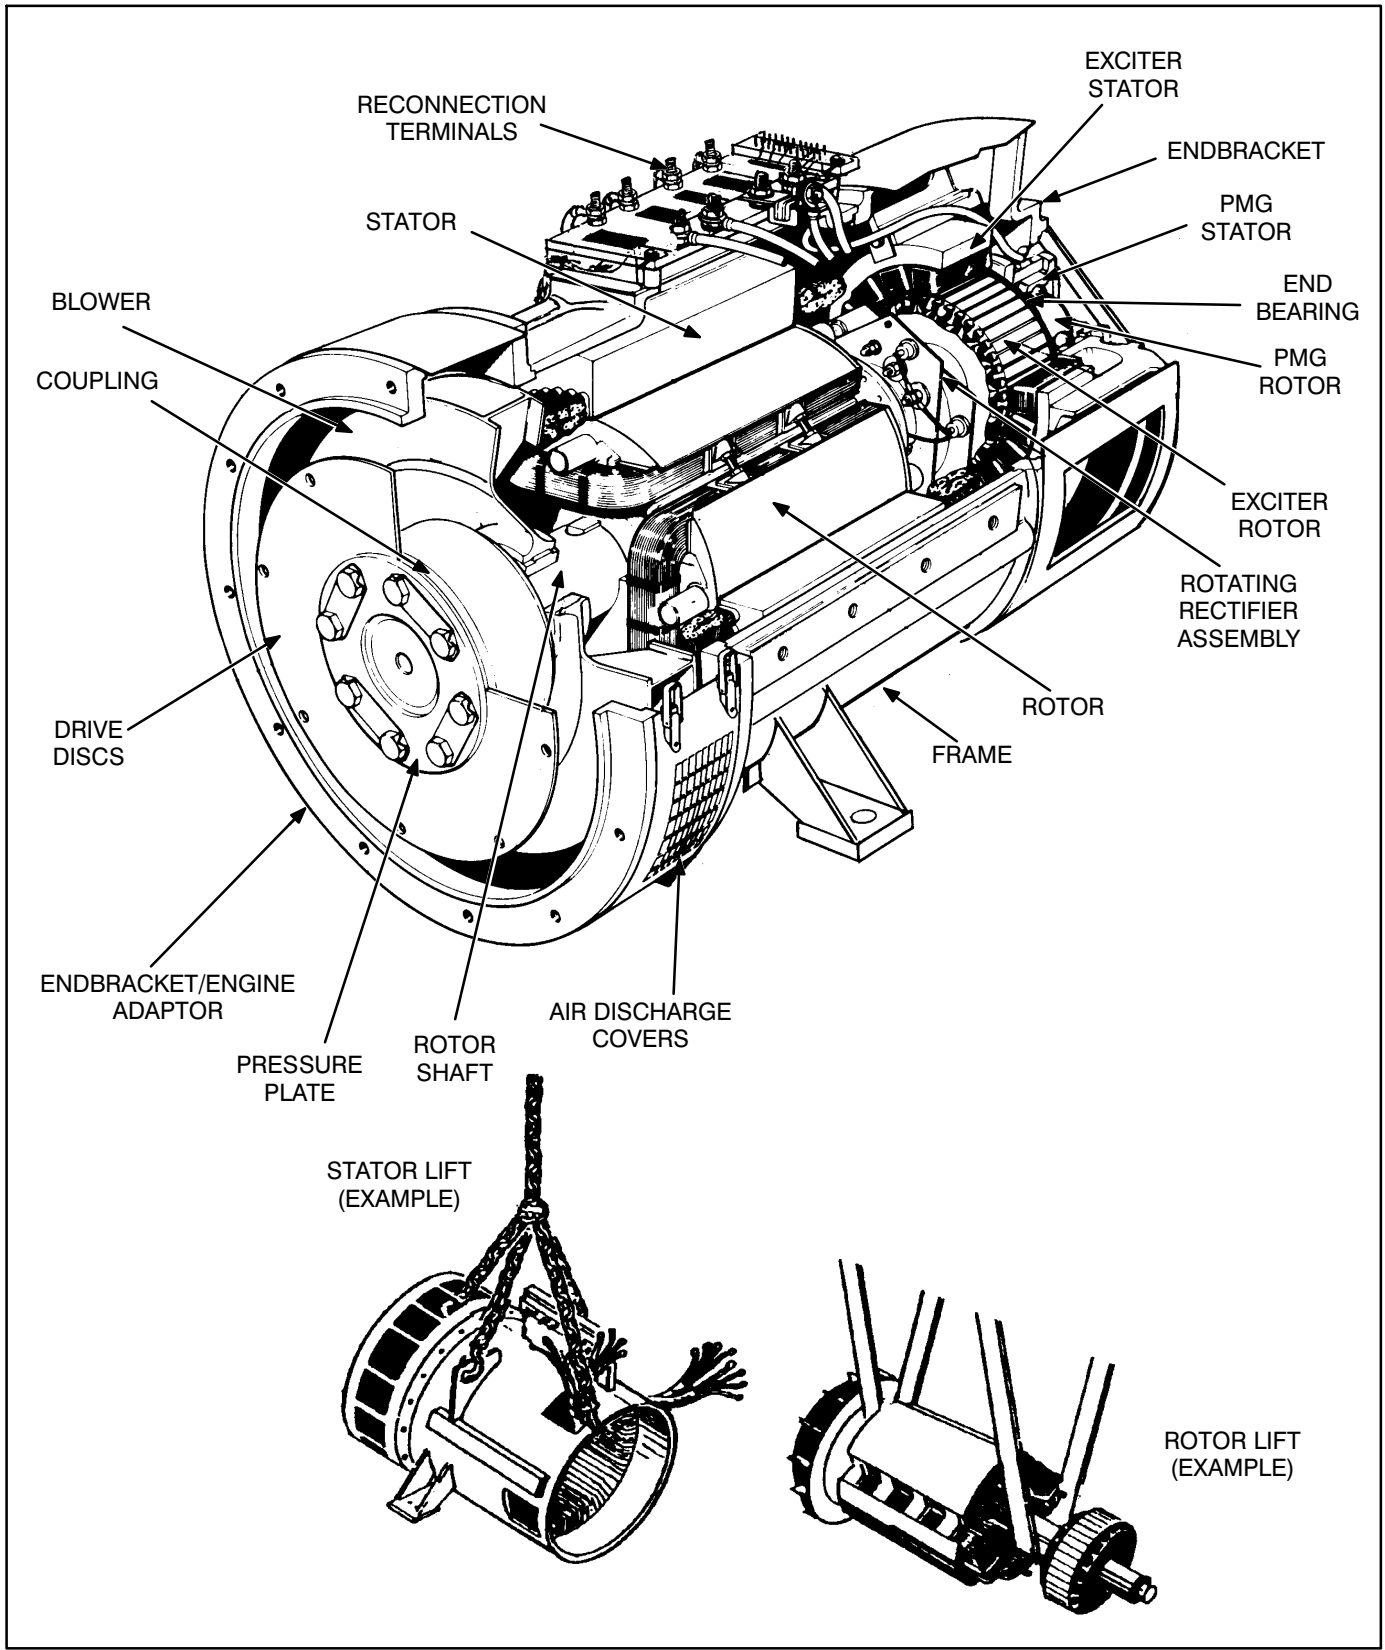

FIGURE 6-14. TYPICAL ALTERNATOR ASSEMBLY
24. Reposition or add hoist and sling support for the main rotor, and remove the forklift. See Figure 6-14, Rotor Lift detail.